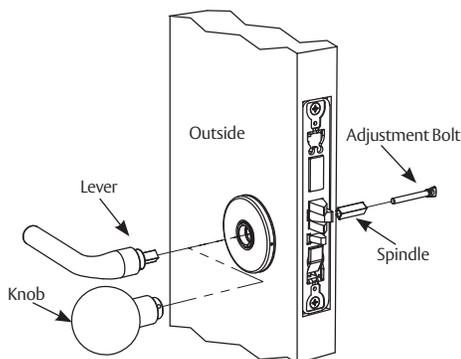

Figure 16
3. Install outside lever or knob by inserting adjustment bolt on opposite side of door. Tighten bolt finger-tight and then loosen a few turns. (Figure 16)